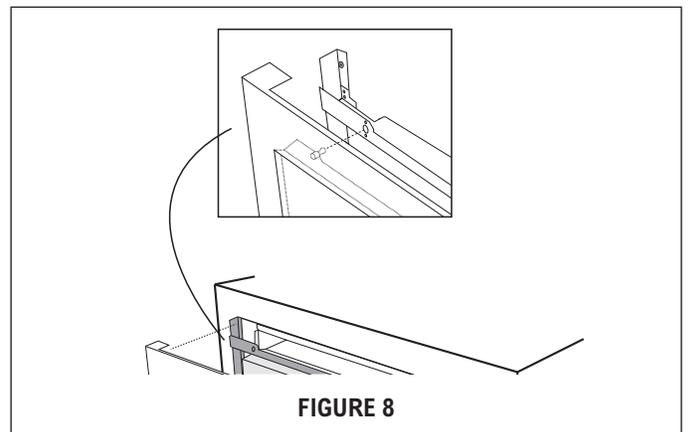

FIGURE 8
5. **FRONT FRAME INSTALLATION:** Place the FRONT FRAME onto the BACK FRAME and align ball studs and receivers. Secure the FRONT FRAME to the BACK FRAME by firmly pushing the FRONT FRAME onto the BACK FRAME engaging the 4 snap attachments. See Figures 8 and 9.
5. Install Air Deflectors top and bottom. Center (left and right) the Air Deflectors above and below the installed BACK FRAME. Secure AIR DEFLECTORS with 4 SCREWS E. See Figure 8. Mark holes and pre-drill the wood cleats with $\frac{1}{16}$ " drill bit.